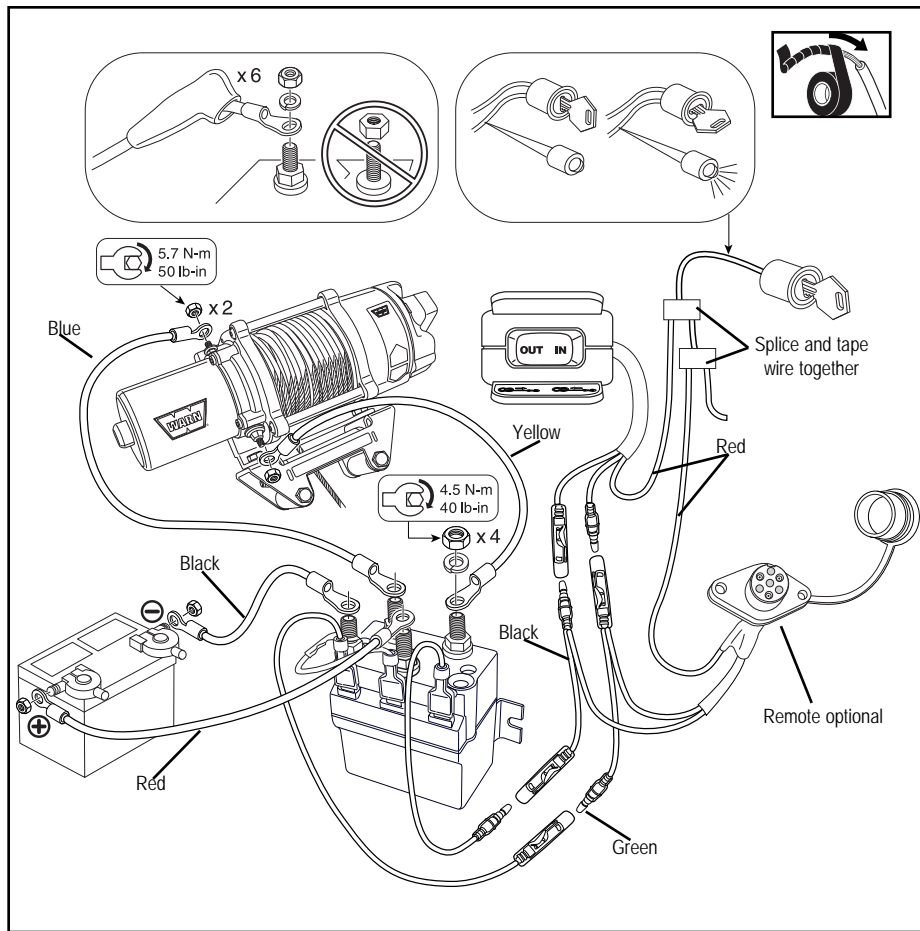

Figure 11. Wiring Installation diagram
1. Slip terminal boots on yellow and blue cable ends. See Figure 11 on following page.